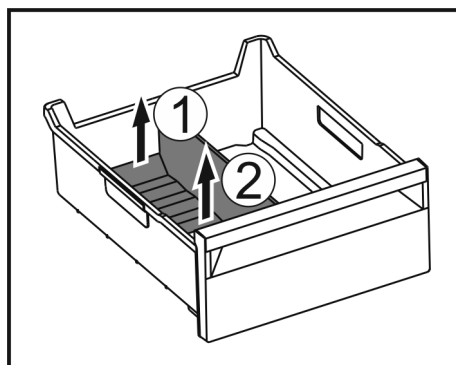

Fig. 114
- Lift the rear part of the ice compartment divider. Fig. 114 (1)
- Remove the ice compartment divider upwards. Fig. 114 (2)